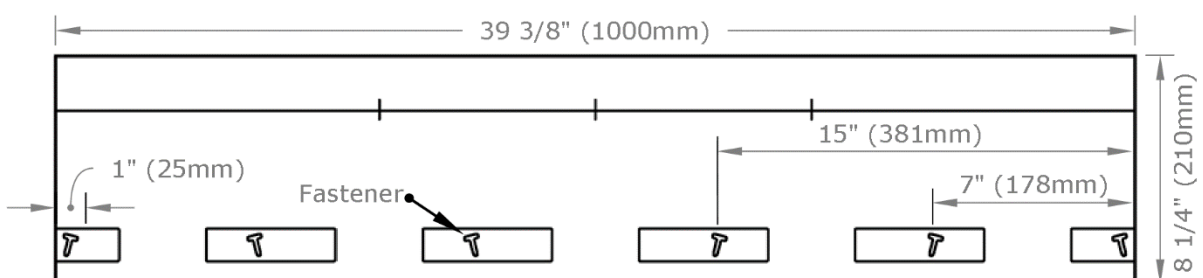

FIGURE 6 - Starter
- FWAVE requires the use of REVIA® Starter Shingles to ensure proper waterproofing and aesthetics. See **Figure 6**.